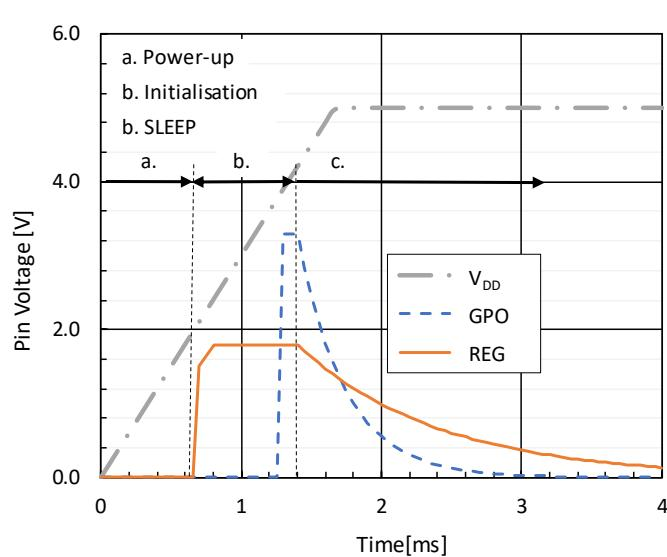

Figure 23: Typical V_{DD} , GPO & REG pin voltage during device initialization
2. Wait 3 ms for the BOS1211 to start-up with the sequence presented in Figure 23, with the following steps: